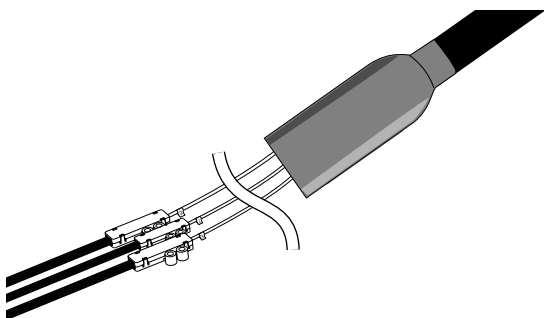

Figure 2
1.2 Corning Cable Systems Cable End Kits, when combined with Buffer Tube Fan-out kits (ordered separately) branch the fibers contained in a loose tube fiber optic cable into individual fibers protected by 900 μm OD protective tubes (Figure 2). The fibers can then be connectorized per hardware interface requirements.